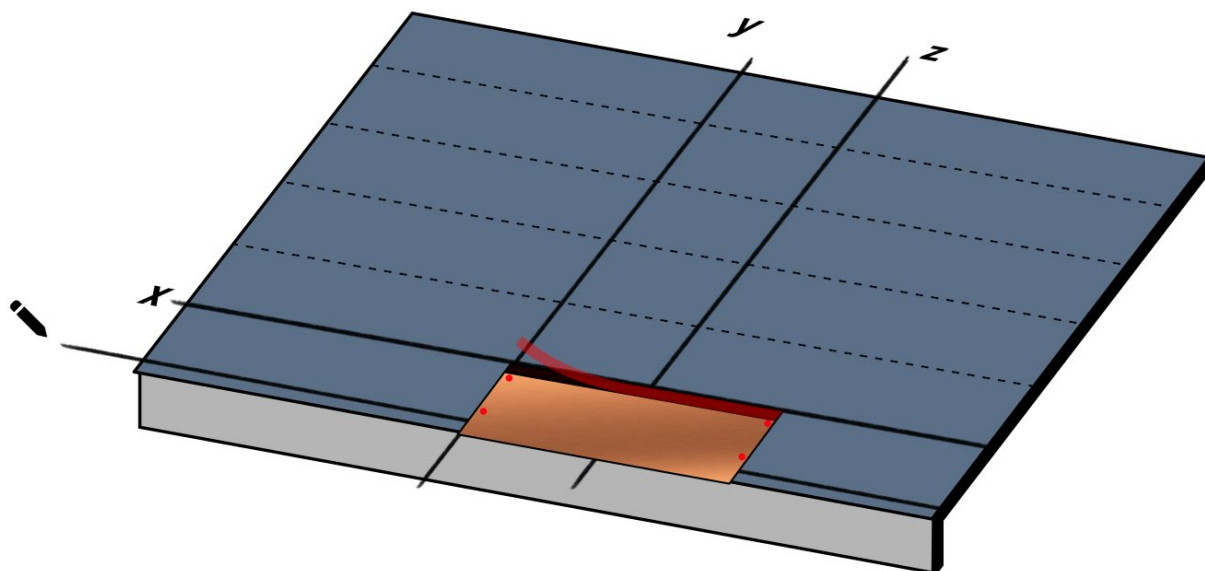

Fig. 6 - First shingle installation
- Then, proceed with the installation of the shingles of the starting row: align the lateral edge of the first shingle on the vertical **y** and the upper edge on the horizontal **x**. Remove the protective film of the self-adhesive strip. Fix the shingle to the substrate with stainless steel nails placed at 2 cm from the edges, in the same position as Fig. 6.